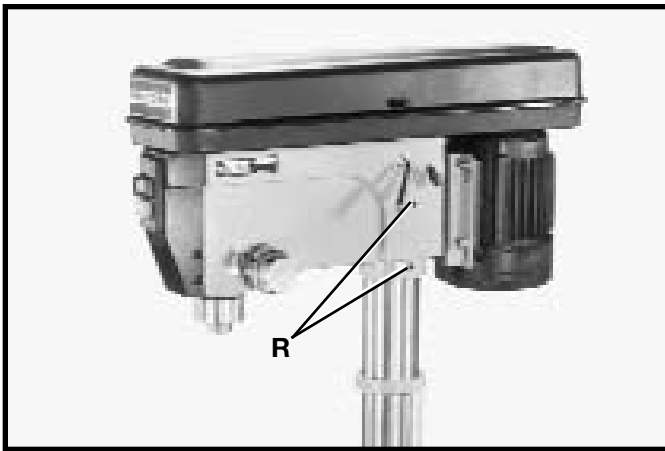

Fig. 11
11. Place the drill press head on column, as shown. Line up head with base and tighten two head locking screws (R) Fig. 11.